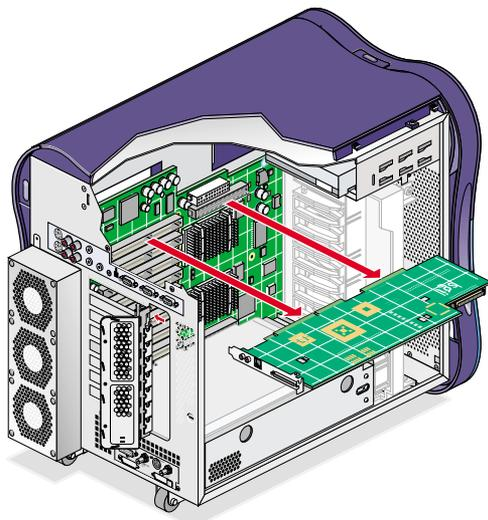

Figure 3-18 Removing the IO9 Board
3. Gently grasp both ends of the IO9 board. Then lift straight up until it clears the PCI slot. Tilt the front end of the IO9 board upward until it clears the edge of the chassis. Then remove the IO9 board from the enclosure and place it in a safe location (see Figure 3-18).